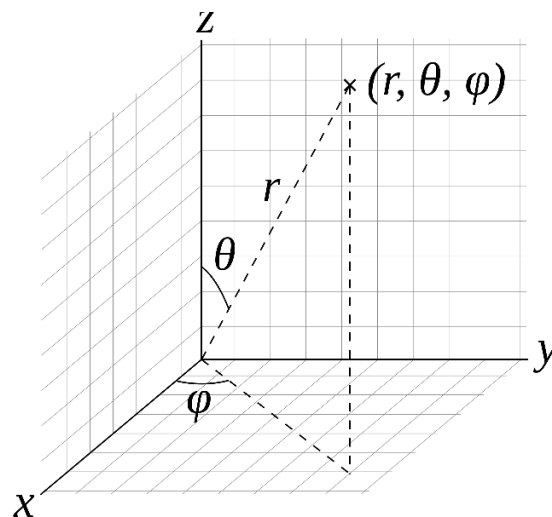

Figure E-1. Definition of the spherical coordinate that is being used for sun vector outputted and the construction of error table [1]
- 2. Two angle errors will be measured in each testing condition, one in Phi and the other in Theta, defined in Figure E-1. Totally 108 testing conditions for completing the error table, exemplified in Table E-1.**